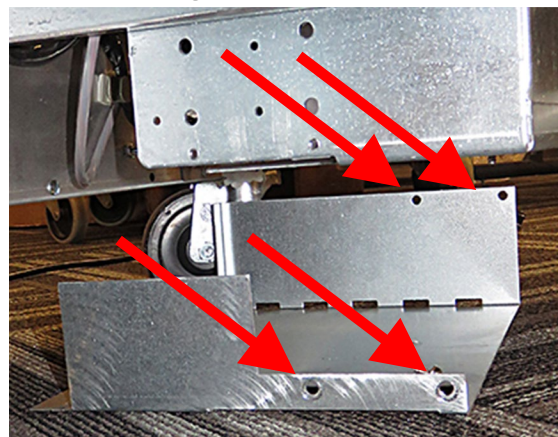

Figure 9
11. Remove the splash shield on the right side of the transformer box, by removing the two (2) screws on the rear and the two (2) screws on the front (see Figure 9).